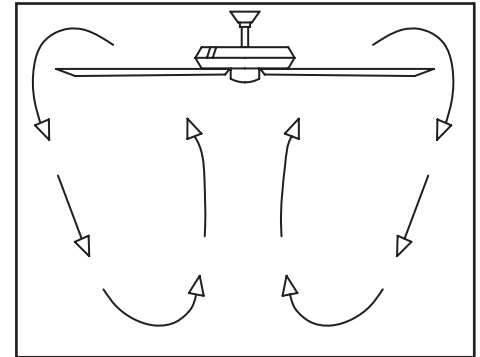

Figure 23
**Cool weather - (Reverse)** An upward air flow moves warm air off the ceiling as shown in Figure 23. This allows you to set your heating unit on a lower setting without affecting your comfort.